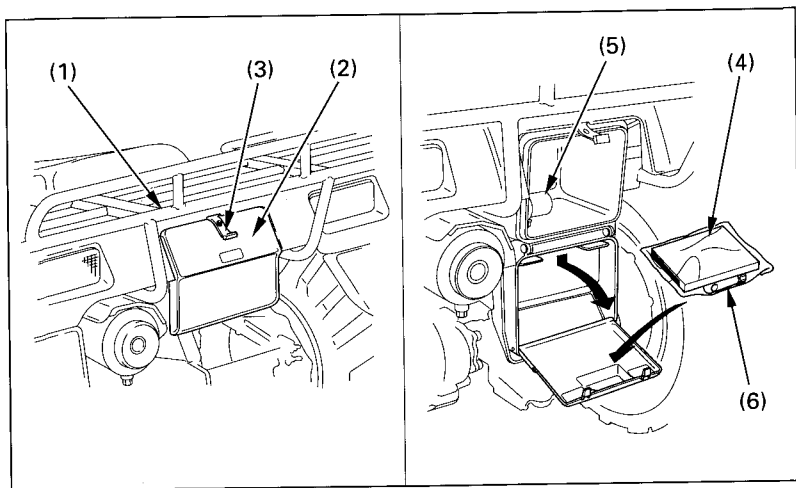

Fig. 2-26 (1) Rear cargo rack
The storage compartment (2) (Fig. 2-26) is below the rear cargo rack (1). To open the compartment, unhook the rubber strap (3). The owner's manual (4), tool kit (5), and air pressure gauge (6) should be stored in the storage compartment (2).